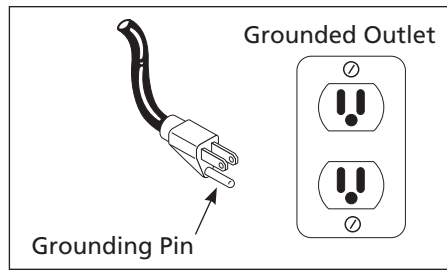

Figure 6 - Grounding Method
3. This product is for use on a nominal 120 volt circuit and has a grounding plug that looks like the plug illustrated in Figure 6.